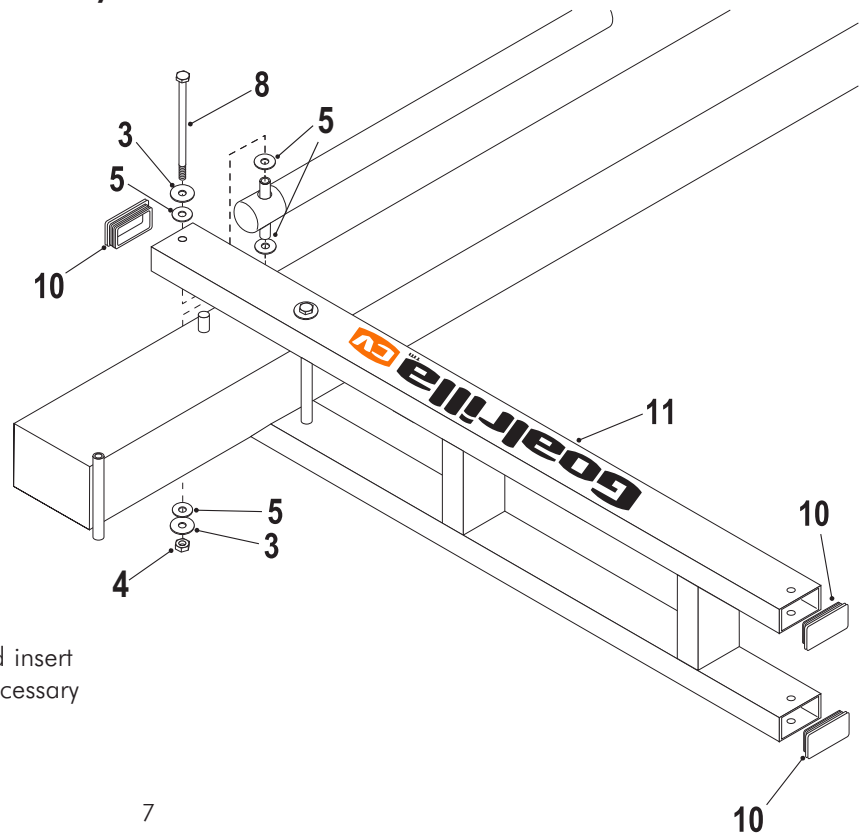

Figure 6
6. Secure Actuator (#16) to Lower Arm (#11) using one bolt (#8), two flatwashers (#3), four plastic washers (#5) and one locknut (#4). See Figure 6. Tighten both bolts (#8) **snug but, do not over tighten. Board Arms must pivot freely.**